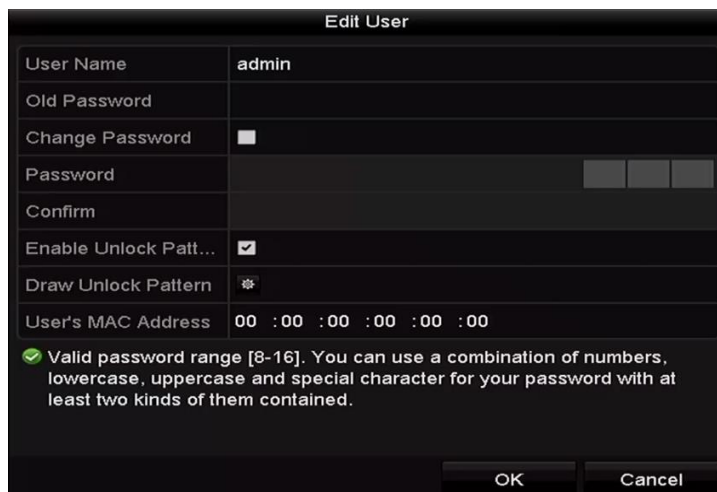

Figure 16-11 Edit User (admin)
Step 3 Click the icon to enter the Edit User interface, as shown in Figure 16-11.